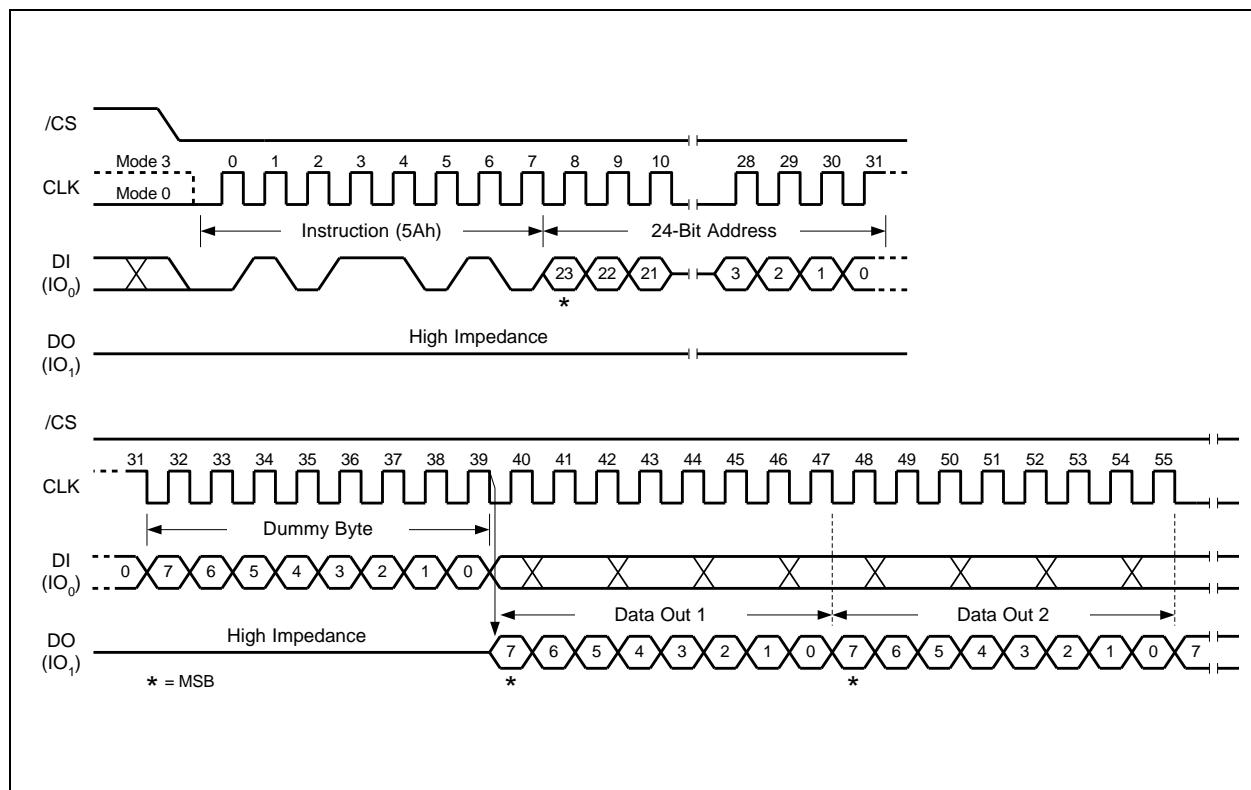

Figure 34. Read SDFP Register Instruction Sequence Diagram (SPI mode only)
The Read SDFP instruction is initiated by driving the /CS pin low and shifting the instruction code “5Ah” followed by a 24-bit address (A23-A0)(1) into the DI pin. Eight “dummy” clocks are also required before the SDFP register contents are shifted out on the falling edge of the 40th CLK with most significant bit (MSB) first as shown in Figure 34. For SDFP register values and descriptions, please refer to the Winbond Application Note for SDFP Definition table.